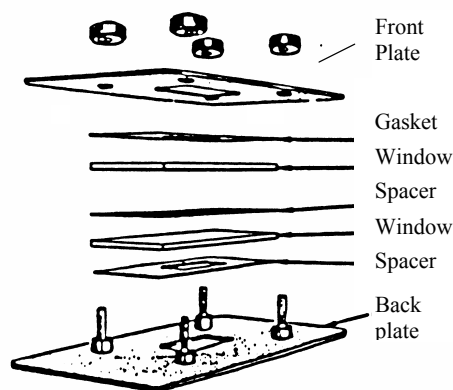

Figure 1 Demountable liquid cell
4. liquid cell, sample is placed between two windows and a spacer is used to make a cell, typical path lengths of cells are 0.05 - 0.1mm. (see Fig. 1)